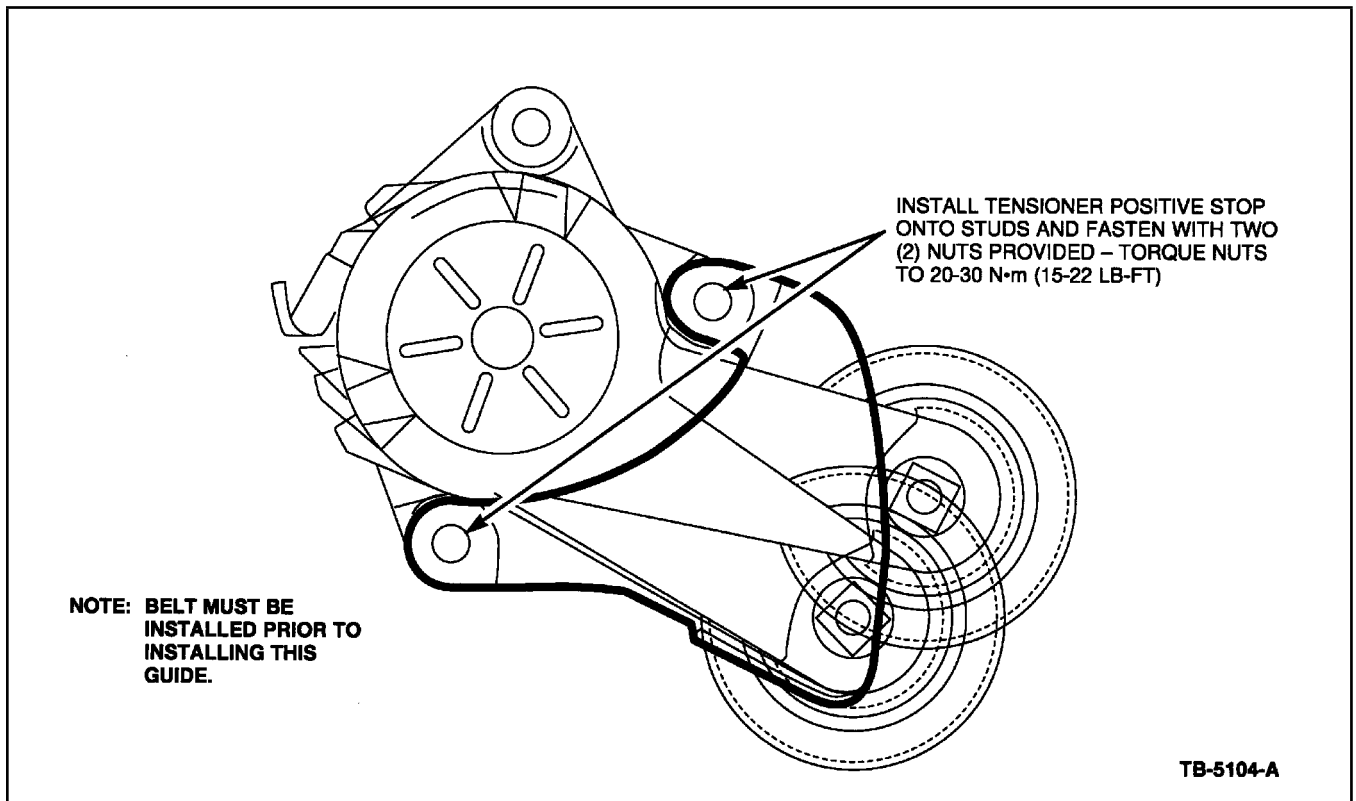

Figure 5 - Article 98-20-18
7. Install the new steel Tensioner (F8ZZ-6B209-BA) using one (1) existing stud and two (2) new Studs (N807336-S2) (Figure 5). Torque the studs and nuts to 20-30 N•m (15-22 lb-ft).
9. Install the Tensioner Positive Stop (F7ZZ-19A439-AC) onto the two (2) studs that mount the tensioner (Figure 5). Fasten the stop bracket with two (2) Nuts (N804178-S309). Torque the nuts to 20-30 N•m (15-22 lb-ft).